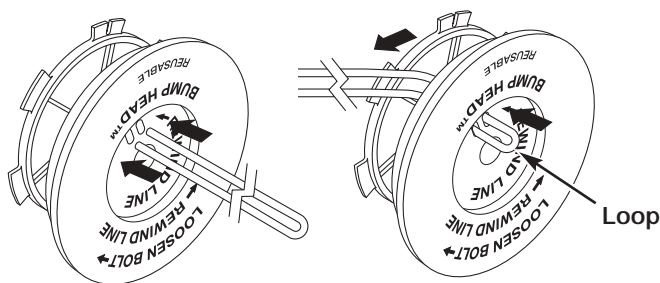

Fig. 36
- Take approximately 18 feet (6 m) of new trimming line, loop it into two equal lengths. Insert each end of the line through one of the two holes in the inner reel (Fig. 36). Pull the line through the inner reel so that the loop is as small as possible.